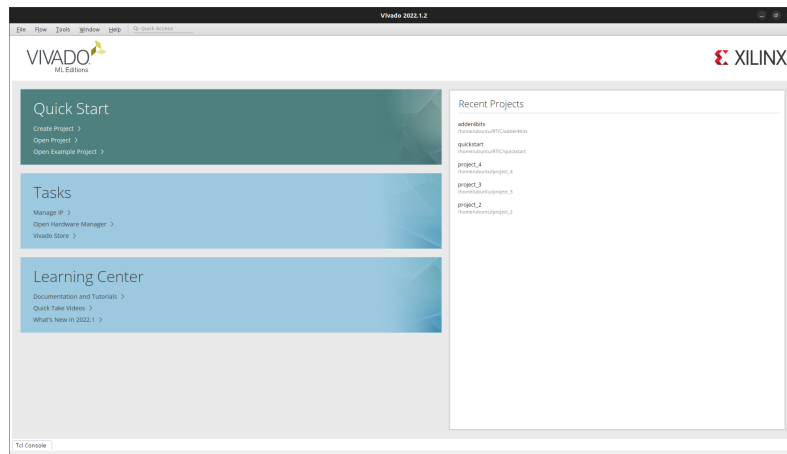

Figure 1: Welcome Screen of Vivado
3. Open Vivado 2021.1 and create a new project (figure 1)